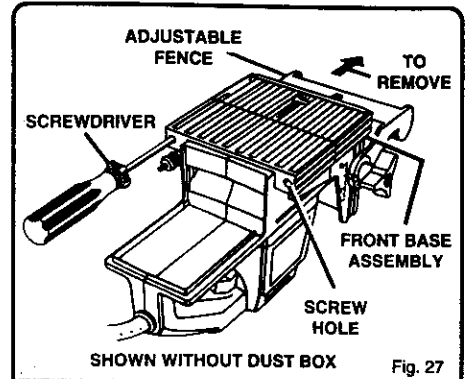

Fig. 27
3. Place your plate joiner upside down on a workbench as shown in figure 27.
5. Pull adjustable fence in the direction shown by the arrow in figure 27 and remove front base assembly.
**NOTE:** Blade teeth point toward the right of the plate joiner when held in normal operating position. The direction of rotation is marked on the blade. An arrow on the bottom of the front base assembly also indicates direction of rotation. See Figure 27.